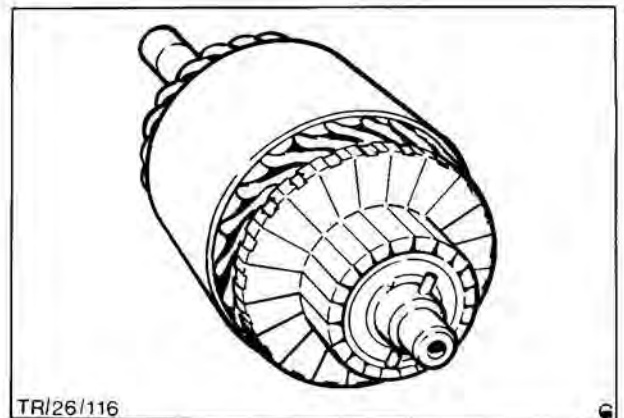

Fig. 72. Commutator
16. Examine surface of the commutator, Fig. 72, it should be clean and free from burnt spots. If necessary restore surface with fine glass paper followed by wiping and a petrol moistened cloth. The commutator may be skimmed to a maximum depth of 1,5 to 3,0 mm (0,060 to 0,120 in) on the dia. before a replacement armature become necessary. After skimming, the surface should be polished as mentioned above. **The insulation slots must not be under cut.**